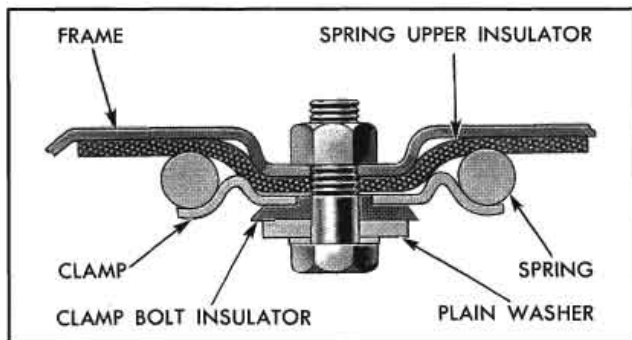

Fig. 3-30 Cross Section of Upper Rear Spring Assembly
8. Remove upper spring retainer nut and remove bolt, lock washer, flat washer, rubber insulator and spring clamp with fabric insulator (Fig. 3-30).